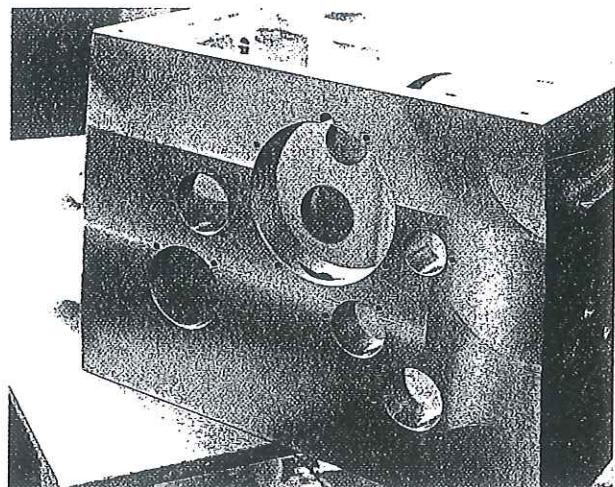

Figure 12
5. Clear oil return hole using air pressure. (**Figure 12**)